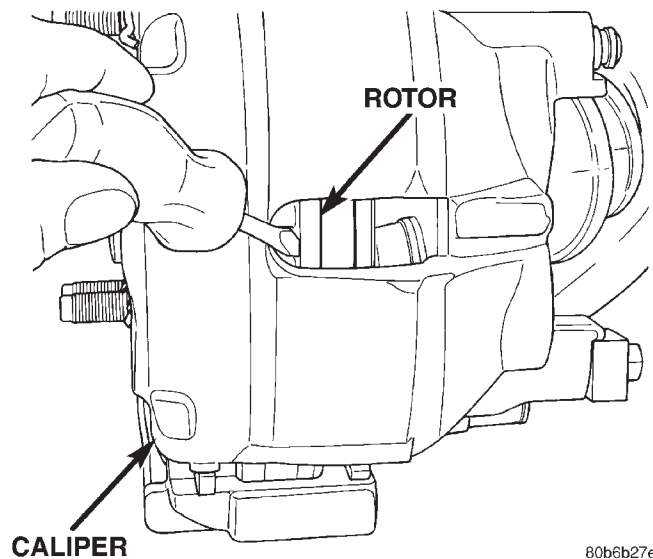

Fig. 23 Bottoming Caliper Piston
- (1) Raise and support vehicle.
- (2) Remove front wheel and tire assembly.
- (3) Drain small amount of fluid from master cylinder brake reservoir with **clean** suction gun.
- (4) Bottom caliper pistons into the caliper by prying the caliper over (Fig. 23).